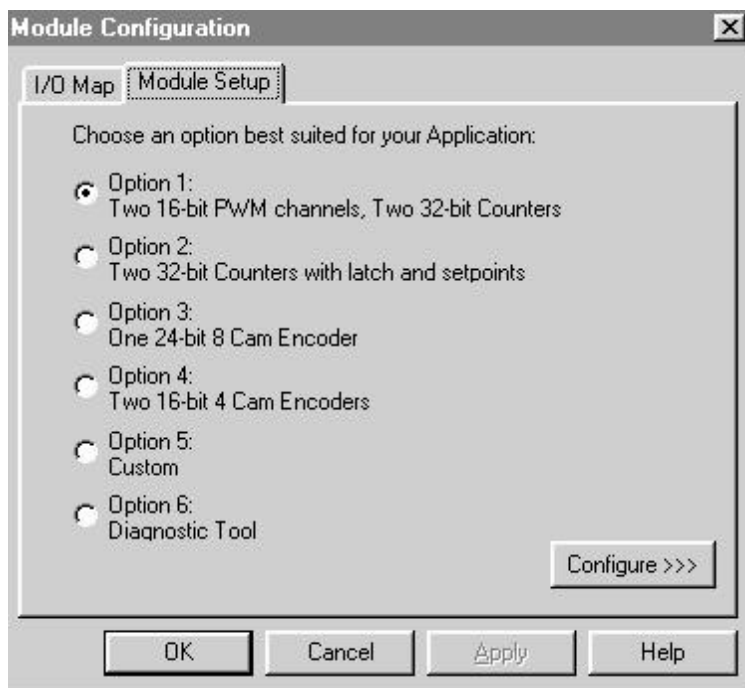

Figure 3.3 – Option 1 Selected
1. Click the Enable box located next to the desired Totalizer Counter(s). One or both counters can be enabled and can be configured independently. (See Figure 3.3.)